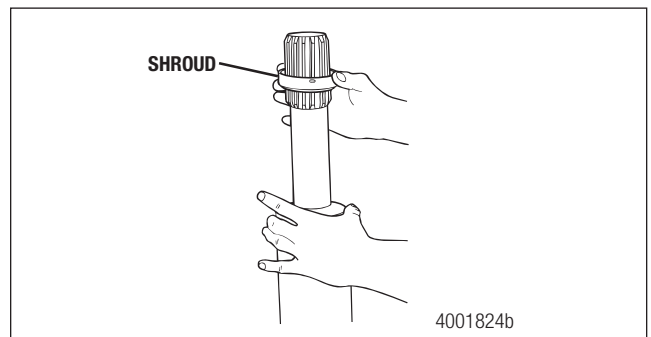

Figure 5.12
4. Install the new shroud onto the spline shaft. Figure 5.12.